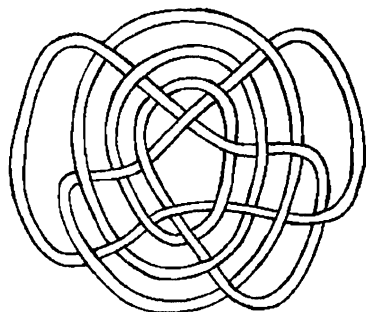

fig 1
In KM 55, Brian Walsh showed how to tie a delightful 5 lead by 5 bight covering knot. To study it, I tied it in hand, laid it flat and drew it (figure 1). I believe this is not a turks head knot. As illustrated by Ashley and so many others, each cord leaving each bight on one end of a TH goes directly to a bight on the other end of the knot. Walsh's knot doesn't have this characteristic.
It isn't obvious from figure 1, but each end of the knot is the same as the other end.
- 1 Start with a small loop in the line as shown in fig 1